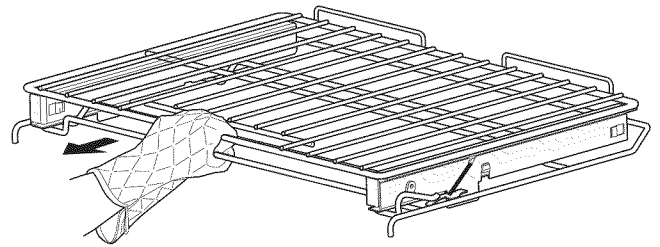

Figure 12: Removing the oven glide rack
2. While holding up the release lever, pull the glide rack out of the oven until the stop position is reached (See Figure 12).